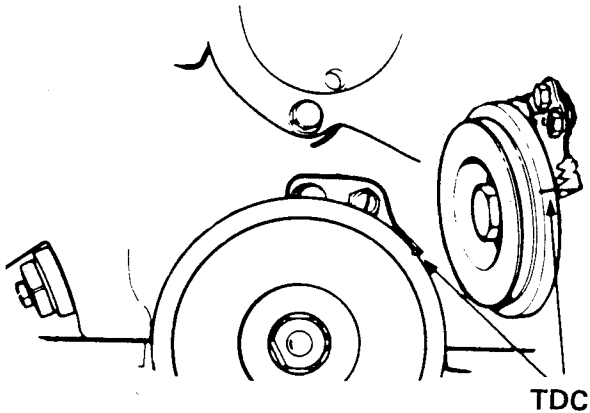
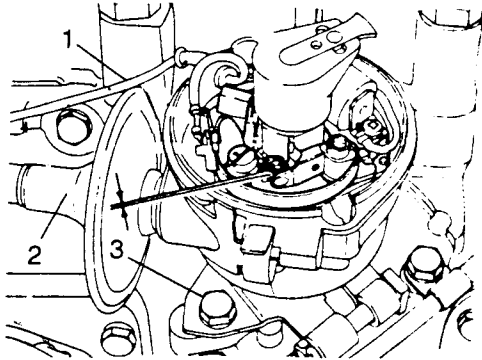

Fig D4.2
Fig D4.3
- (3) Refer to Fig D4.2. Rotate the crankshaft until the mark (1) on the crankshaft pulley lines up with the TDC point (2) while at the same time the distributor rotor (Fig D4.3) is pointing to the cap segment which is connected to the spark plug of No 1 cylinder (No 1 cylinder is the front cylinder).
- (4) Refer to Fig D4.3. Disconnect the distributor low tension lead (1).
- (5) Disconnect the vacuum pipe from the vacuum advance unit (2).
- (6) Remove the two screws retaining the distributor clamp flange (3) to the cylinder block.
- (7) Withdraw the distributor upwards.